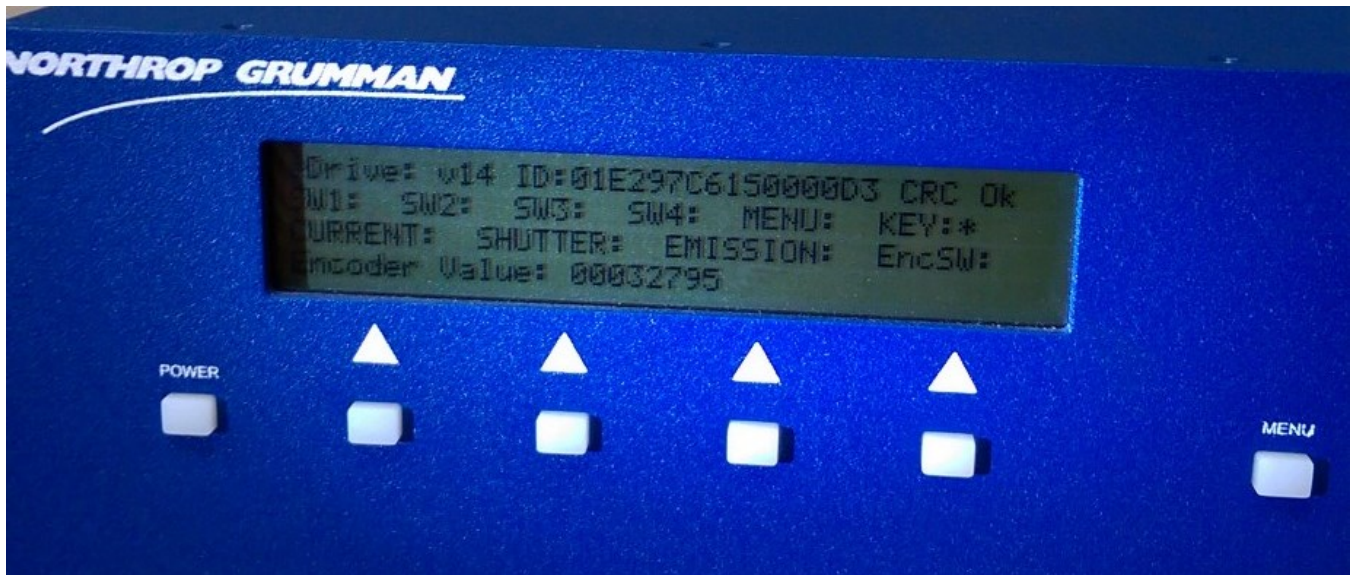

Figure 1: Display Self-Test Screen
2. Press first and third buttons from the left under the display. See figure 1